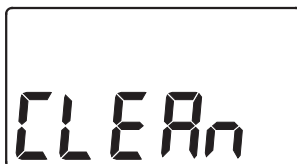

FIG. 30
- **Light flashing, with "CLEAn" flashing in the display** (See Fig. 30) - Four months have elapsed on the system's timer since start up or the last reset.